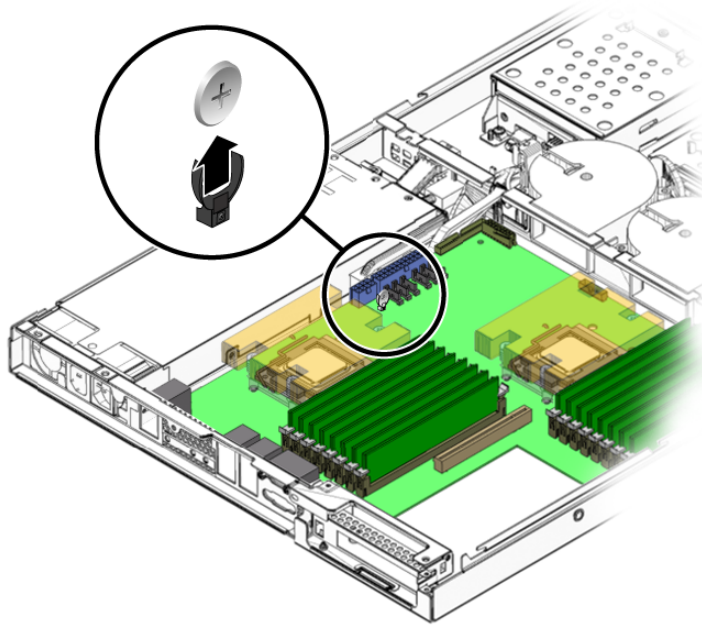

FIGURE 4-27 Removing the System Battery
3. Remove the system battery by pulling it up and out of the holder (see FIGURE 4-27 for the location).